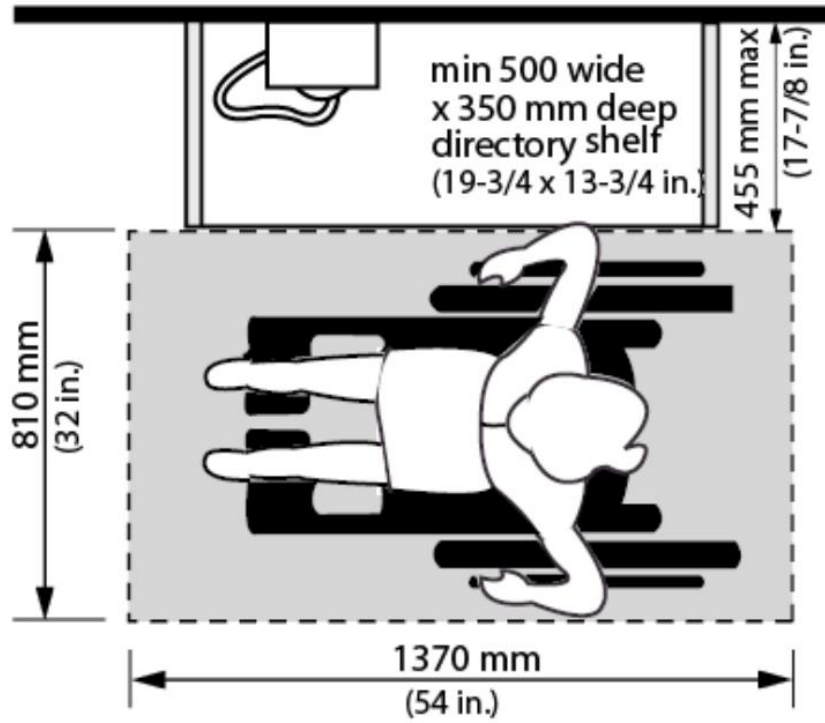

Figure 131: Parallel Approach to a Public Telephone
- For parallel approach: as per Figures 131 and 132